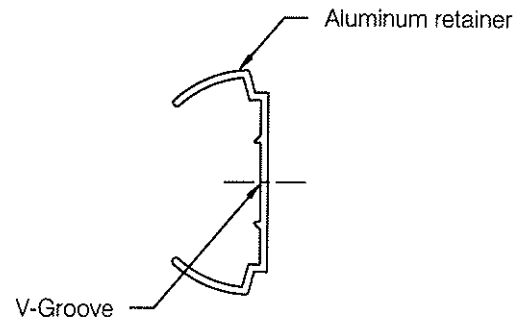

fig 2
**Step 3** Pre-drill clearance holes in retainer along the v-groove provided in the retainer, see **fig. 2**. Use a #15 (.180 inch) bit for #8 fastener or a #7 (.01 inch) bit for #10 and 3/16 inch fasteners. Space holes at 16 inches on center. Adjust spacing to accommodate studs as necessary. Do not pre-drill at locations that will interfere with installation of molded accessories.